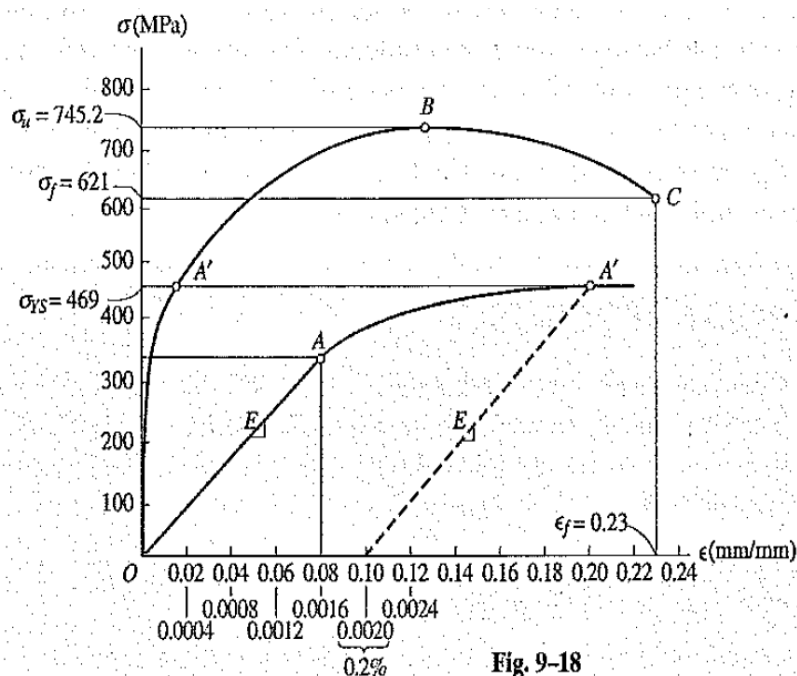

Fig. 9-18
A tension test for a steel alloy results in the stress-strain diagram shown in Fig. 9-18. Calculate the modulus of elasticity and the yield strength based on a 0.2% offset. Identify on the graph the ultimate stress and the fracture stress.
**Ultimate Stress.** This is defined by the peak of the  $\sigma$ - $\epsilon$  graph, point *B* in Fig. 9-18.